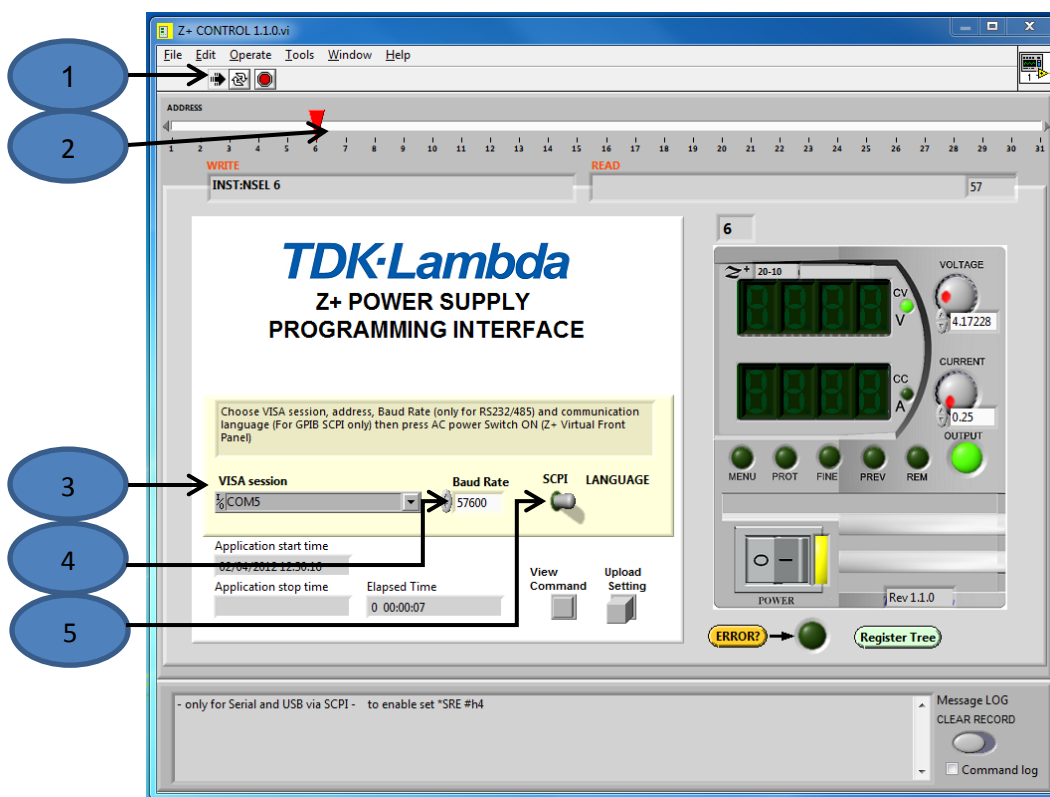

Fig 8
2. Press **RUN** button (1) to run application. Refer to Fig 8
- a. Unit Address (2)
- b. Port (VISA session -COM port for RS232/485 and USB), GPIB::::INSTR for GPIB (3) and TCPIP::::INSTR for LAN (Refer to chapter E). Select "Refresh" to update connection.
- c. Baud Rate for RS232/485 and USB (4)
- d. Communication Language (5)